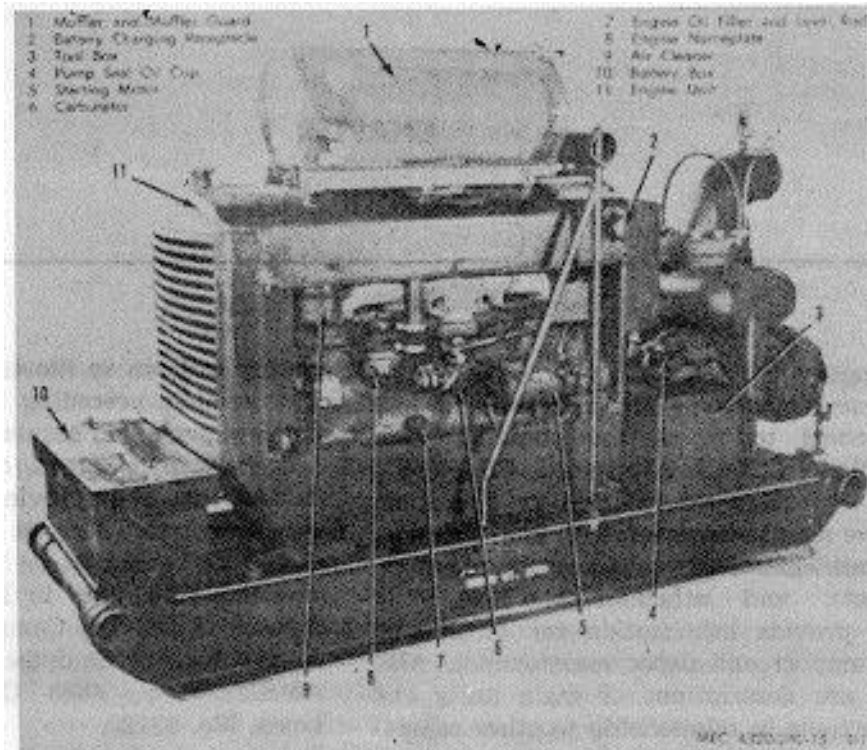

Figure 1-1. Centrifugal pump, right front view, wit panels off.
b. *Centrifugal Pump.* The Carver Model K906MP-01 centrifugal pump is driven directly from the engine flywheel. It is a 6 inch, self-priming, centrifugal, petroleum pump. The pumping unit (fig. 1-1 and 1-2) is skid mounted and equipped with hose connections on suction and discharge.